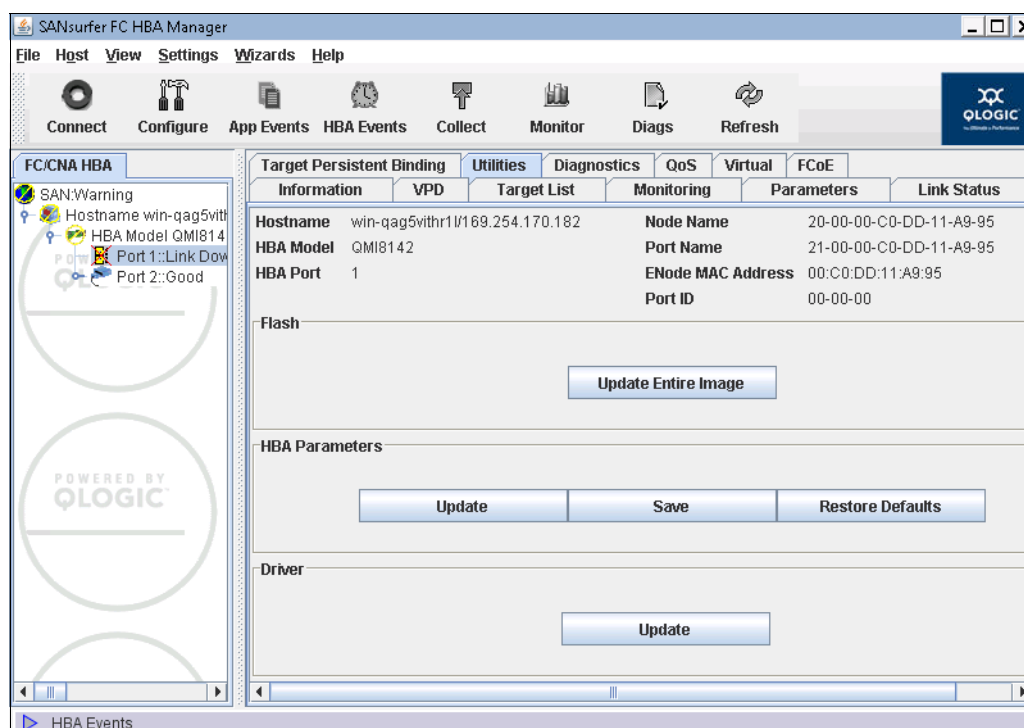

Figure 7-55 SANsurfer Utilities window
- On the **Utilities** tab, in the Flash area, click **Update Entire Image** (Figure 7-55).